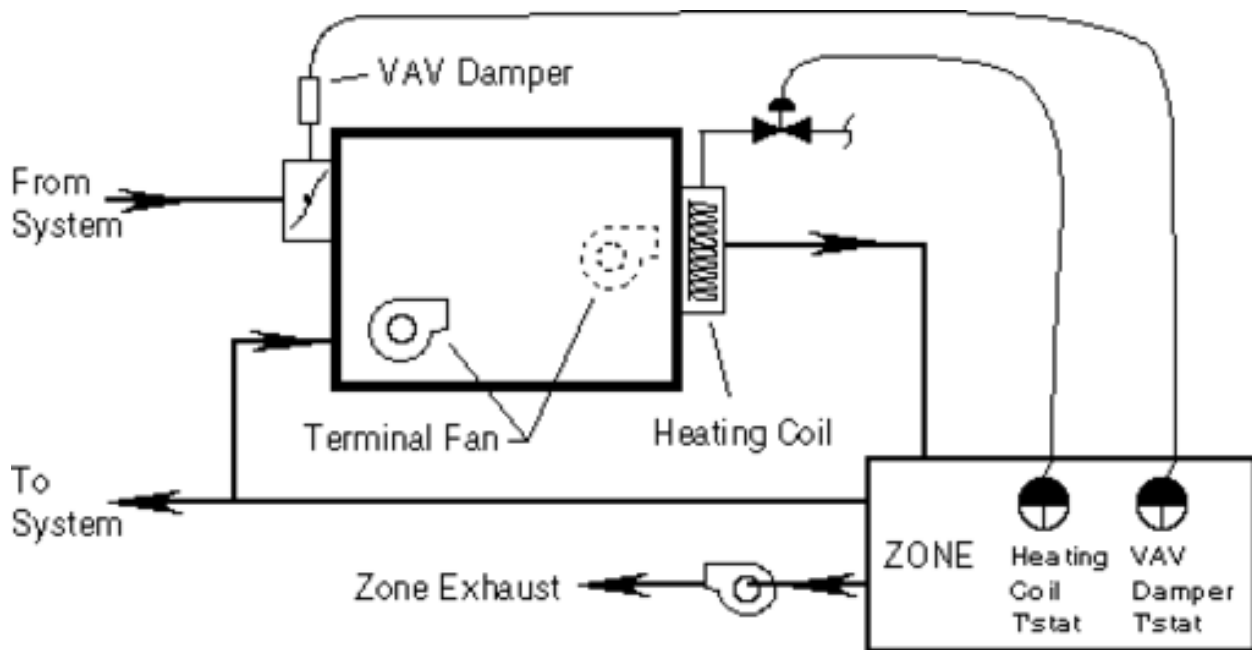

Figure 2: Insert Figure Title
**AIRHANDLER** defines a central air handling system, containing a fan or fans, optional heating and cooling coils, and optional outside air intake and exhaust. **AIRHANDLER** are subobjects of **TOP** and deliver air to one or more **ZONE** through **TERMINAL AIRHANDLER** objects can be used to model fan ventilation and forced air heating and cooling. Dual duct systems are modeled with two **AIRHANDLER** (one for hot air and one for cool air) and two **TERMINAL** in each zone. Figure 2 shows.... [need a sentence that explains the figure.]